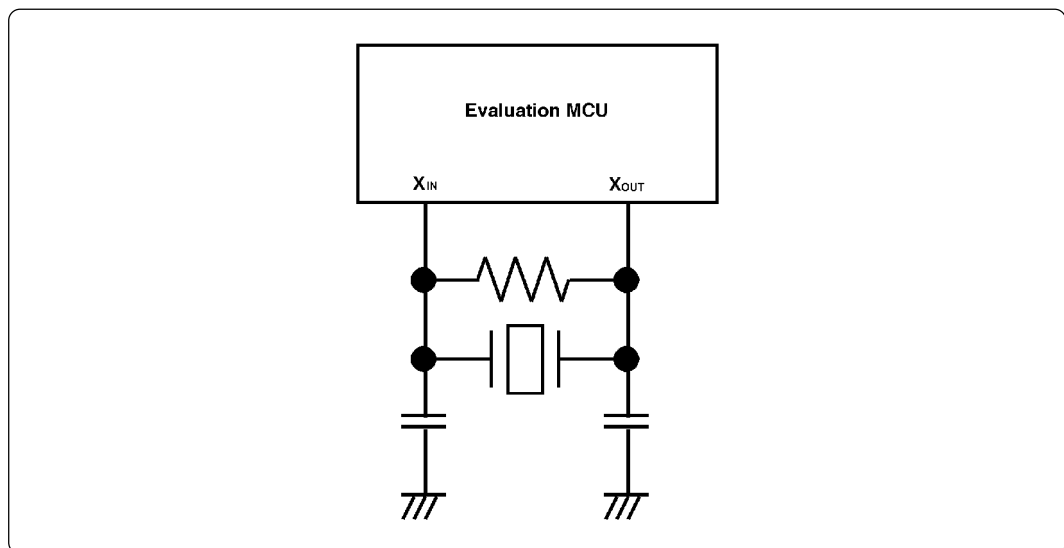

Figure 3.4 Circuit in which oscillation does not occur (same for X_{CIN} - X_{COUT})
- Make note of the fact that in the oscillator circuit shown in Figure 3.4 where a resonator is connected between the X_{IN} and X_{OUT} pins, oscillation does not occur because a flexible cable, buffer IC and other devices are used between the evaluation MCU and the target system. It is same for sub-clock oscillator circuits (X_{CIN} and X_{COUT}).
(2) Changing the Internal Oscillator Circuit of Emulation Pod